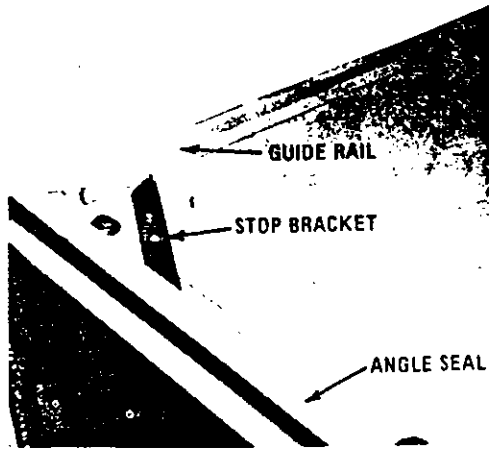

Fig. 16 - Stop bracket and angle seal (Angle seal only on special NEMA enclosures).
6. Clean guide plate and compartment floor thoroughly. Assemble stop bracket (See Fig. 16) to guide plate per Fig. 37.
NOTE: Some NEMA special purpose enclosures have an angle at the bottom of the compartment (Fig. 16) to form a seal with a gasket on the lower inside of the compartment door. Remove this angle only to roll carriages in or out of compartments. When carriage has been installed and completely checked for proper operation, replace this angle.